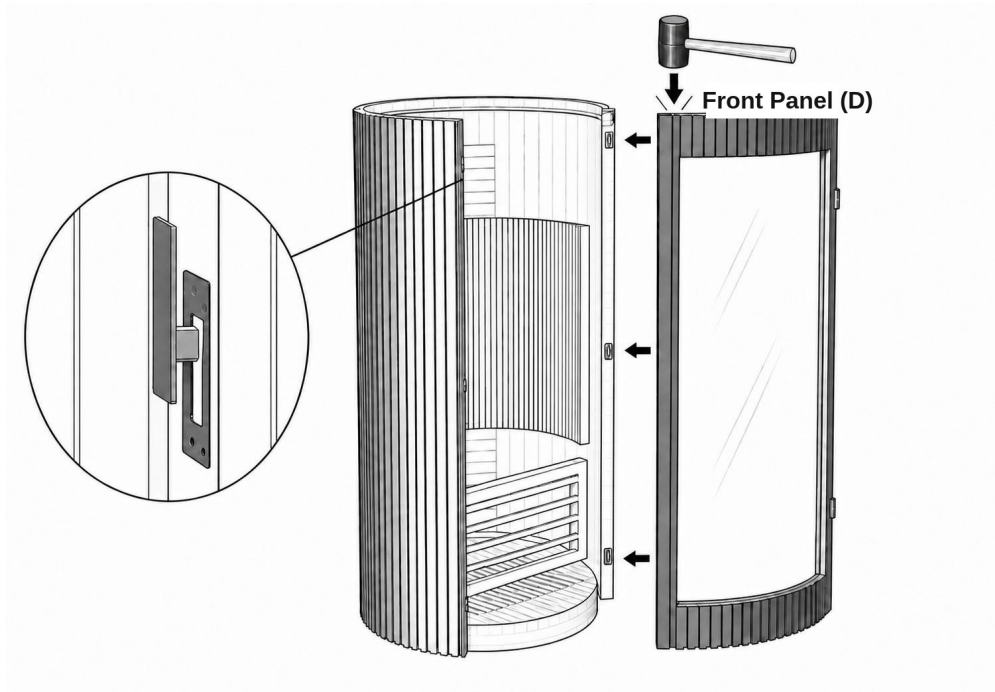

Figure 10. Front Panel (D) aligned with both side panels and tapped down with the rubber mallet.
- Lift the Front Panel (D) and align its recessed keyhole slots with the connectors on the Left Panel (A) and Right Panel (C) (Figure 10).